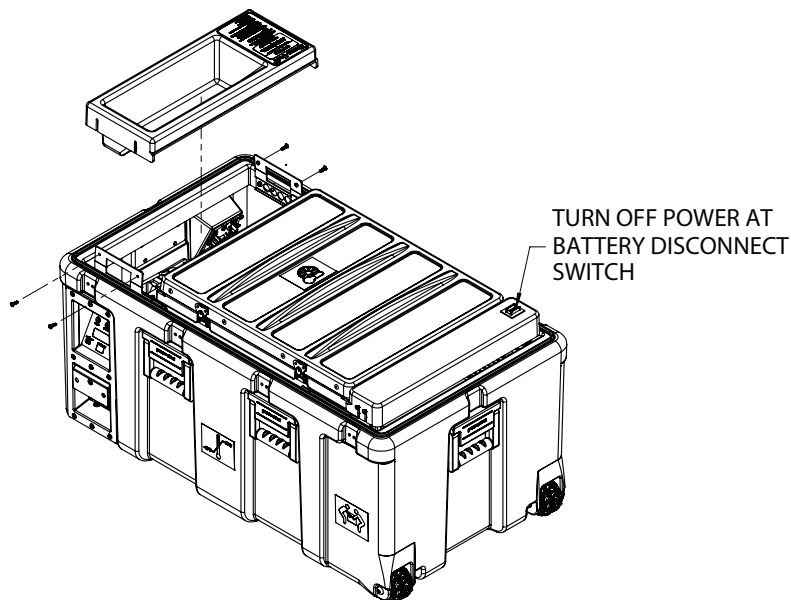
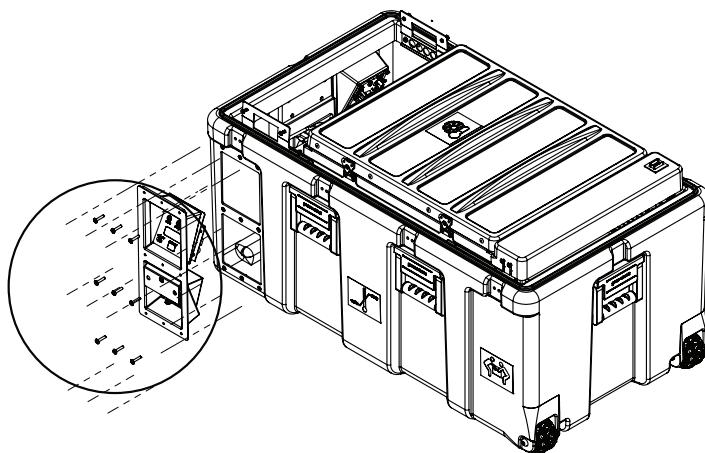

Figure 63. Removing and Re-installing the Control Panel, Compressor Side
Figure 64. Removing and Re-installing the Control Panel Bezel
3. Refer to Figure 63.
6. Refer to Figure 64.
4. Refer to Figure 63 and Figure 64.